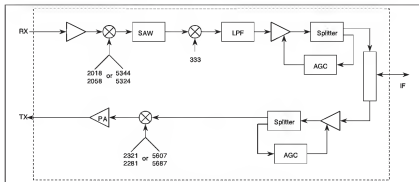

Figure 1-8. RFC Block Diagram
The radio frequency converter (RFC) provides the radio frequency (RF) interface between the baseband processor and the antenna. The RFC is partitioned, functionally, into two major components - the transmitter and the receiver. **Figure 1-8** is a block diagram of the RFC. The major connections illustrated are transmit signal, receive signal, and the IF signal connection.